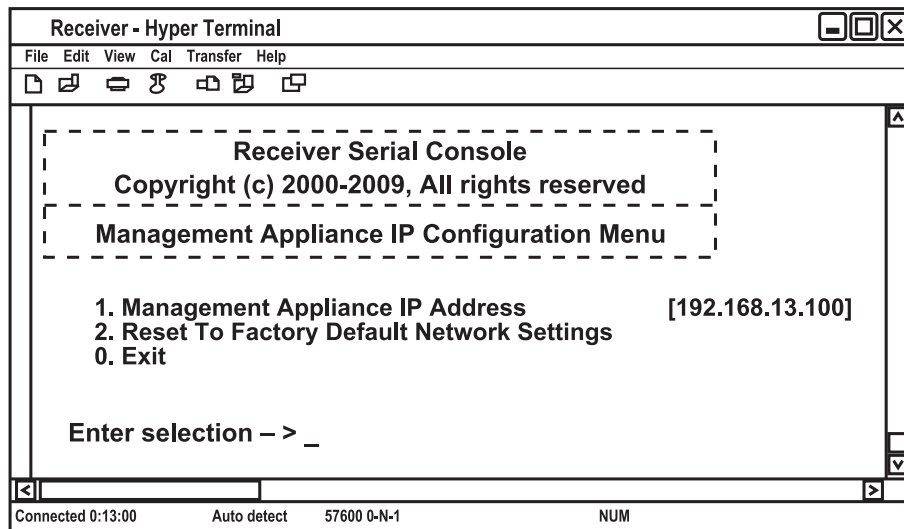

Figure 4-18. DTX Control IP Configuration Menu.
6. Press "2" to select the Management Appliance IP Configuration Menu in the Network Configuration Menu (Desktop Mode) and press "Enter." (The screen in Figure 4-18 appears.)